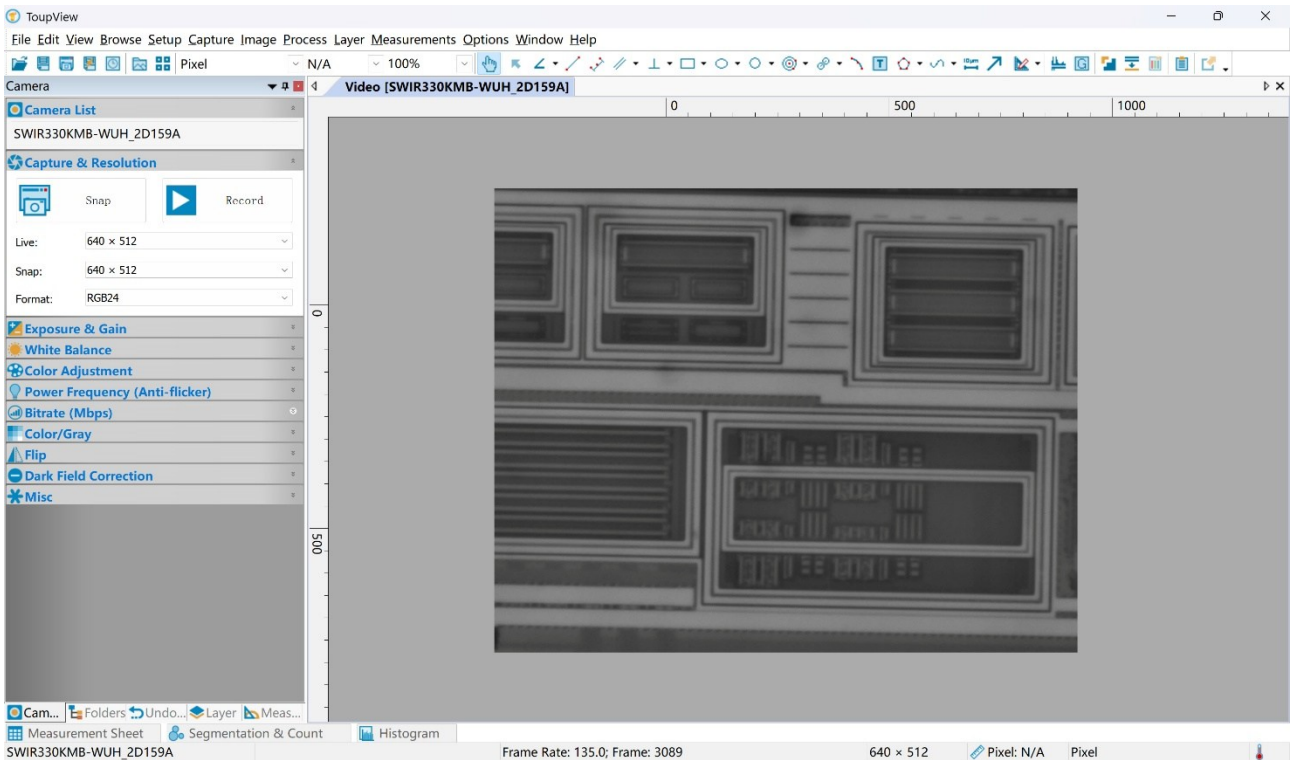

Figure 9 ToupView and SWIR330KMB-WUH Camera in WiFi AP Mode
- Start ToupView/ToupLite software or ToupView App and check the configuration. Normally, the active SWIR330KMB-WUHcameras will be automatically recognized. The live image of each camera is shown in Figure 9. For the display, the Camera List tool window is used in ToupView/ToupLite software, and the Camera Thumbnail is used in ToupView App.